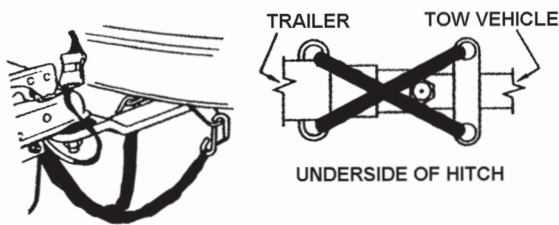

Figure F16: Crossing the Safety Cables
- Safety cables are provided and must be used. Cross the safety cables under the coupling and attach to the towing vehicle’s frame or bumper. See Figure F16. Always allow slack for turns. Regulations vary from state to state. Please check the local laws in your state.